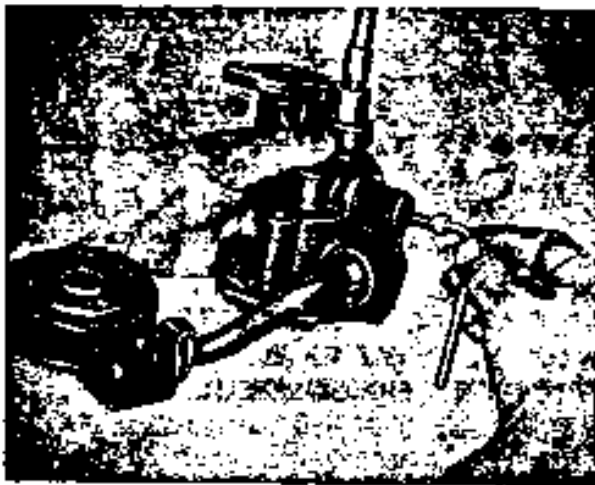

FIG. 1
Tools.- Rear Axle Puller. I have fabricated an axle puller for removing the rear axles/bearing races from the Spicer 44 differential/rear axle. The puller consists of a piece of pipe and a piece of steel. As shown in the drawing (Figure 1), the puller enables removal of the rear axle/bearing by simply tightening of the rear axle nut. The puller cost less than \$1.00 to construct. This tool has served me well.
5. Install the relief valve and spring, start the flanged end of the tube in the housing with small end of tube pointing downward. (Toward bottom of pump). (See Fig. 1).